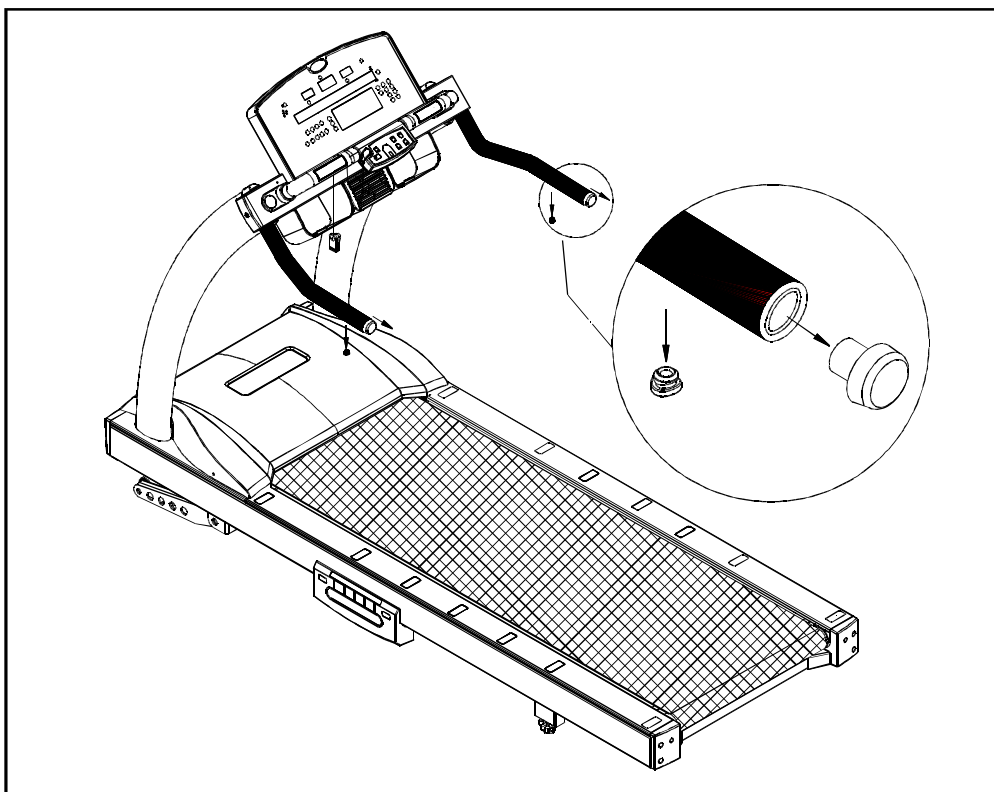

Fig.14
(1) Remove endcap fastener and endcap. (see Fig.14)